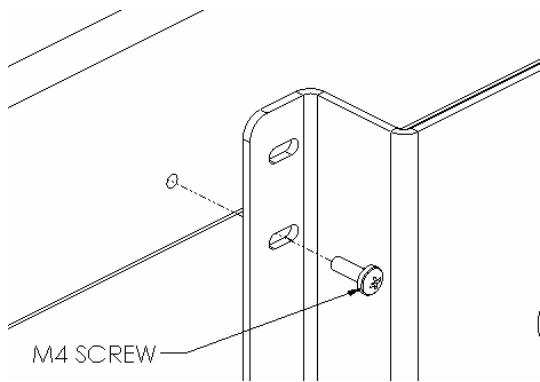
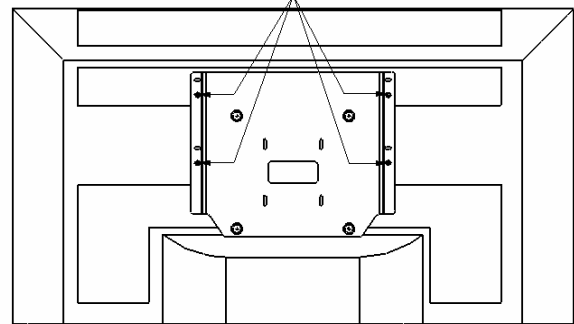
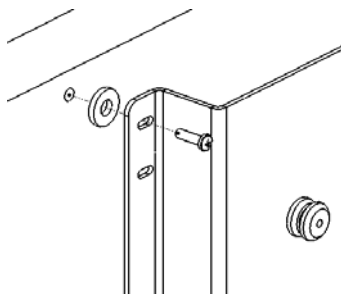
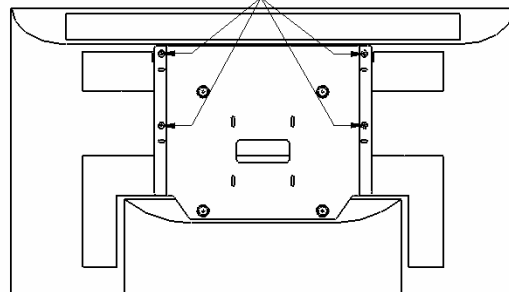

Figure 6
Figure 7
Figure 8
Figure 9
4. **Bracket Installation:** Attach bracket to back of display using the M4 x 16mm screws and nylon spacers, making sure to use the correct slots for each screen size (see Figure 6 & Figure 7 for 32" and Figure 8 & Figure 9 for 26" screen).